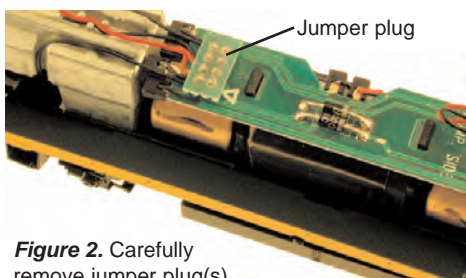

Figure 2. Carefully remove jumper plug(s)
2. Remove the jumper plug/s from the locomotive's DCC-ready socket. **Figure 2** The jumper plug/s allow the loco to operate on a standard DC track or in analog mode on a DCC track.